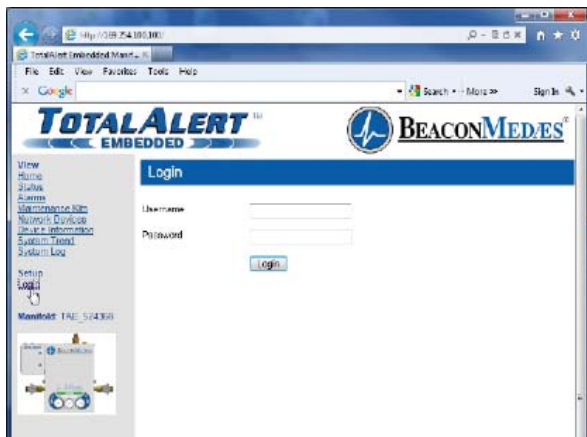

Figure 31: Login for Setup Pages
2. Click "Login" on the menu bar in the left pane. The web browser will request a username and password (Figure 31).